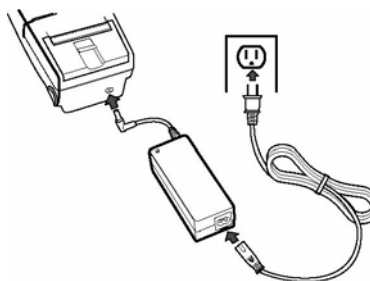

Figure 3 Connect Omni 3600 Terminal Power Pack
- 1 Insert the round barrel connector (Figure 3) into the power port on the back of the terminal.